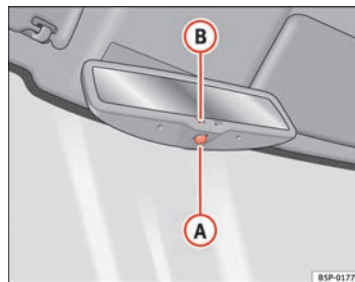

Fig. 85 Automatic anti-dazzle interior mirror.
- Press button **A** ⇒ fig. 85. Indicator lamp **B** goes off.
- Press button **A** ⇒ fig. 85. Warning lamp is lit.